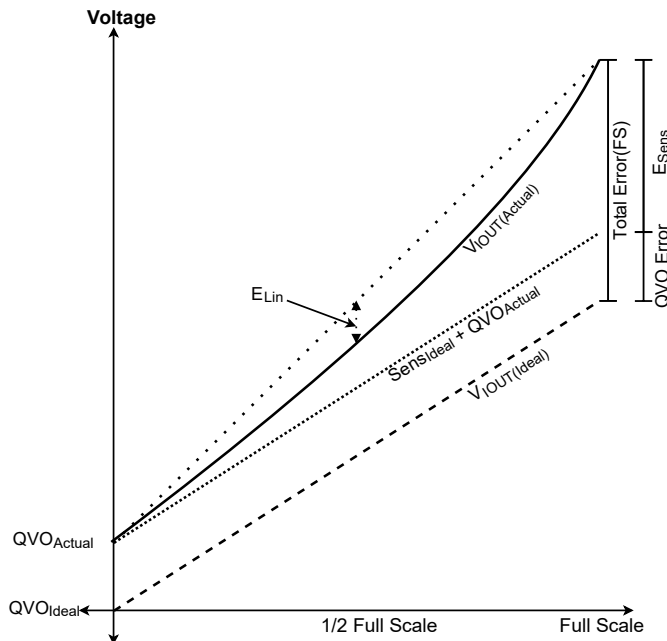

Figure 10: Accuracy Error
As the amount of current applied to the part changes, the sensitivity of the device can also change slightly. This is referred to as Linearity Error or E_{LIN} (see Figure 10). Consider two currents, I_1 (1/2 FS) and I_2 (FS). Ideally, the sensitivity of the device is the same for both currents. Linearity Error is calculated as the percent change in sensitivity from one current to another. Error is calculated separately for positive ($E_{LIN(+)}$) and negative ($E_{LIN(-)}$) currents, and the percent errors are defined as:
Total Output Error incorporates all sources of error and is a function of current. At relatively high currents Sensitivity Error will be the largest contributor to Total Output Error. At relatively low inputs, Offset Voltage, V_{OE}, will be the largest contributor to Total Output Error. At I = 0 A, Total Output Error approaches infinity due to the offset. An example of total error at FS can be seen in Figure 10.